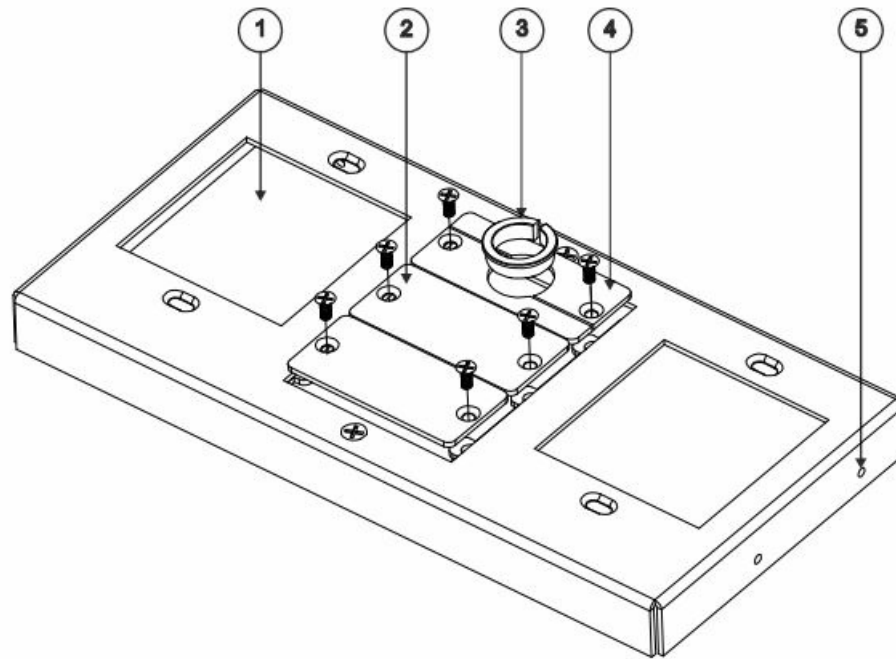

Figure 3: TBUS-4xl Inner Frame (P/N: 80-003699)
**To insert the pass-through cables, for example, to connect a laptop, do the following (see Figure 3):**